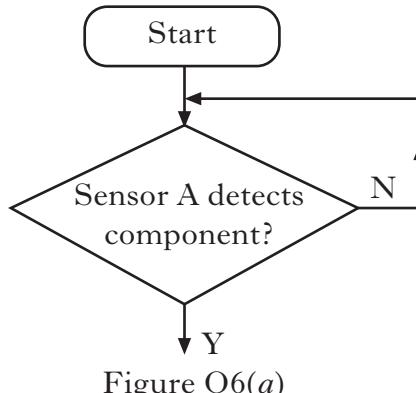

Figure Q6(a)
On **Worksheet Q6**, sketch a flowchart which shows the operation of the automated sorting system for one component. The first part of the flowchart has been completed and is shown in Figure Q6(a). (5)